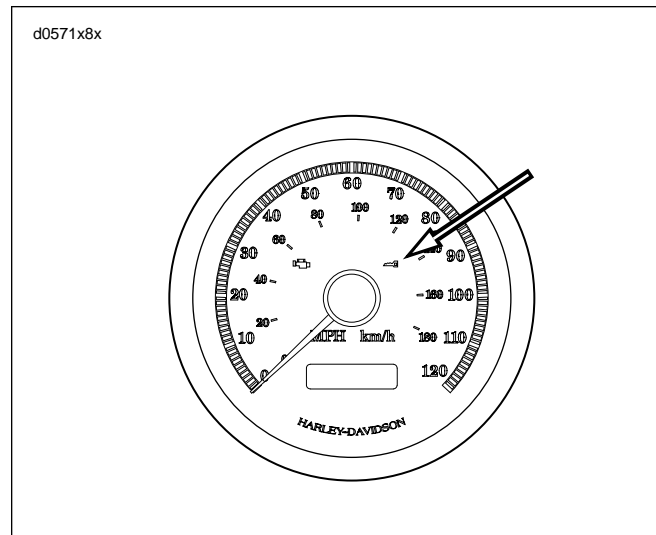

Figure 3-8. Security Lamp
1. See Figure 3-8. When the ignition key is turned ON, the security lamp will illuminate for approximately four seconds and then turn off.